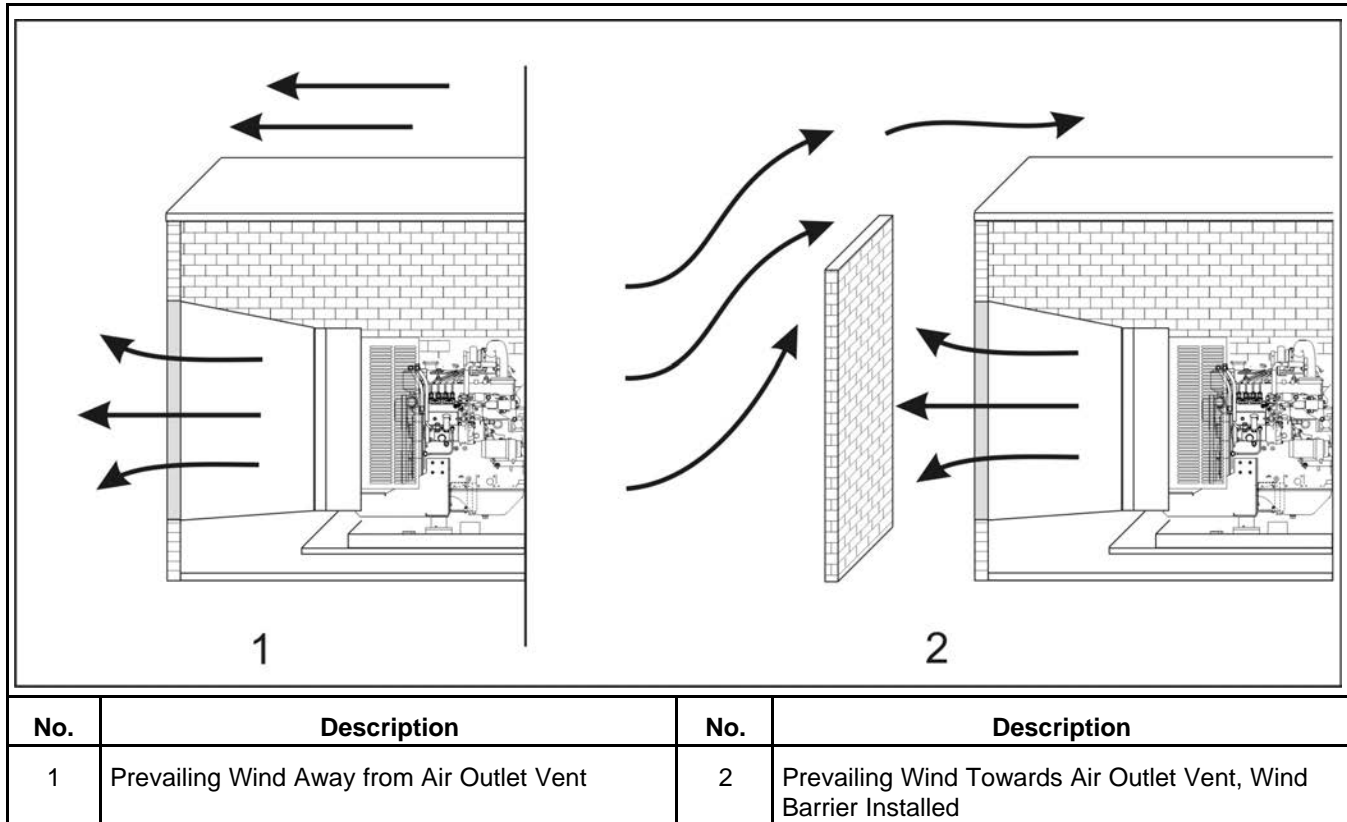

FIGURE 23. WIND BARRIER
3. Wind will restrict free airflow if it blows directly into the air outlet vent. Locate the outlet vent so the effects of wind are eliminated, or if the outlet vent cannot be located as mentioned, install a wind barrier. See Figure 23.